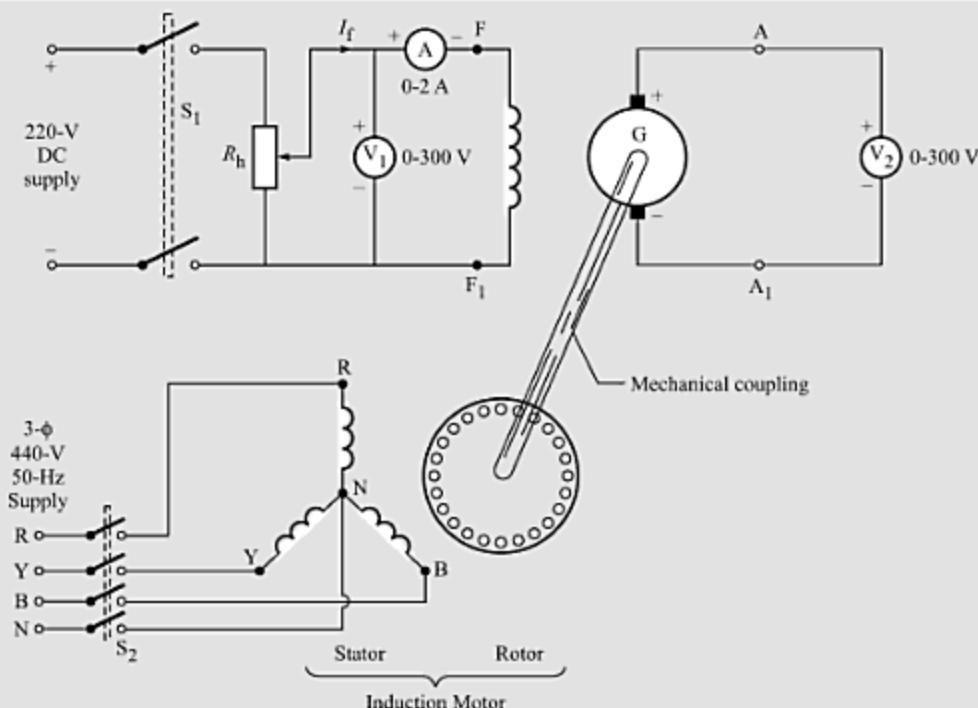

Fig. 16.20
**Circuit Diagram** The circuit arrangement is shown in Fig. 16.20.
For plotting the OCC of a shunt generator, its field winding is separately excited, as shown in Fig. 16.20. The generator is driven by a three-phase induction motor (or any other prime-mover) at a fixed speed and its armature terminals are left open to measure the induced emf  $E$  by a high-resistance voltmeter  $V_2$ .
- Make the connections as shown in Fig. 16.20. The dc generator is mechanically coupled to the 3-phase induction motor. Field winding terminals F-F1 are connected to 220-V dc supply through a rheostat. The voltmeter  $V_2$  is connected across the armature terminals A-A1.